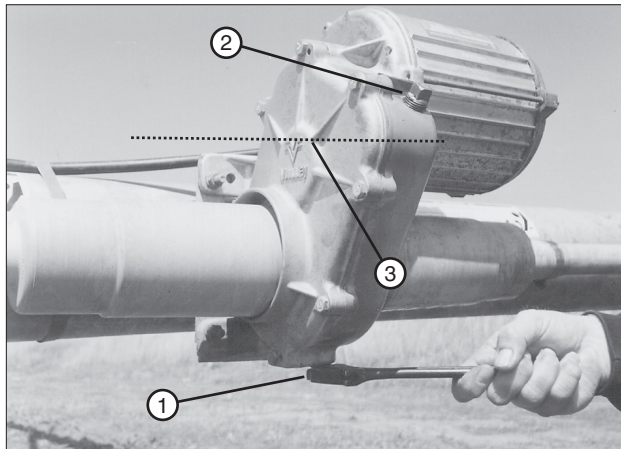

Figure 90-1 1. Drain Plug
1. Remove the drain plug and the fill plug. Drain the oil and install the drain plug. See figure 90-1.